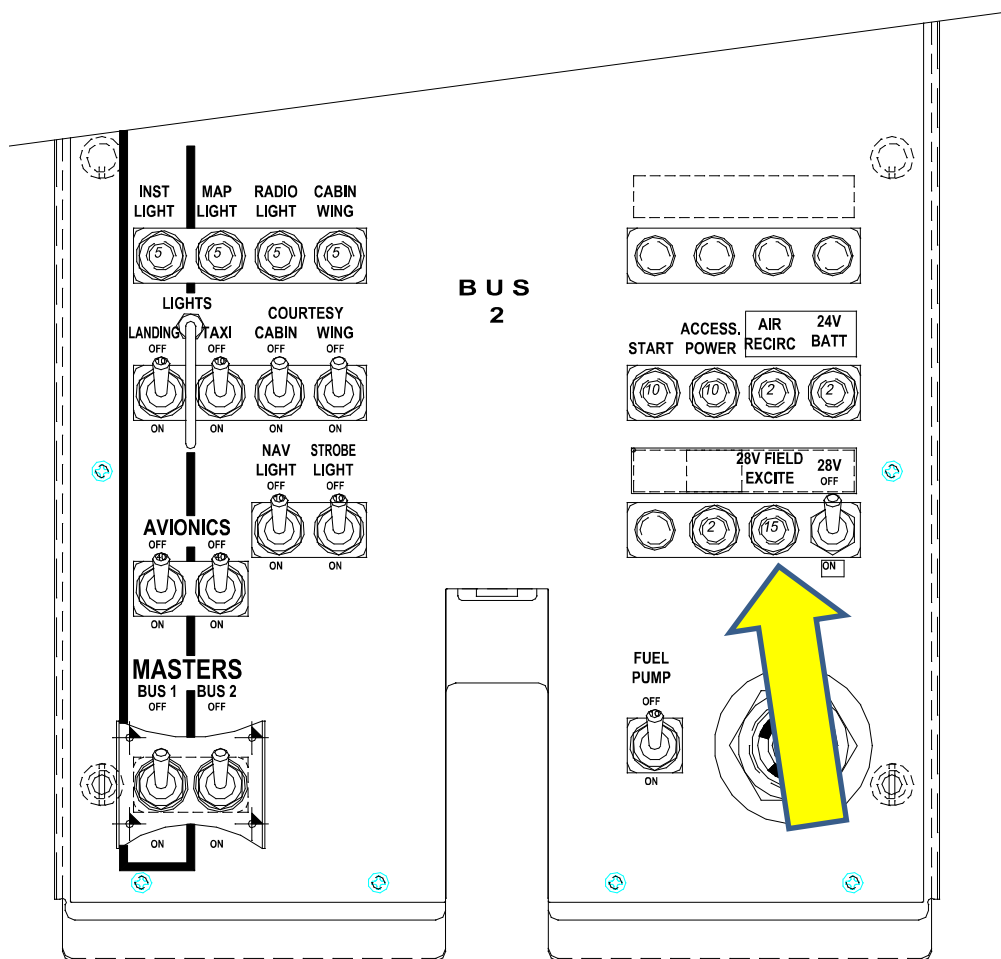

Figure 7 – Unmodified electrical overhead panel.
2. Remove the installed 15A circuit breaker at the location noted in Figure 7. The placard marking may be labelled either "28V FIELD EXCITE" or "28V MISSION".